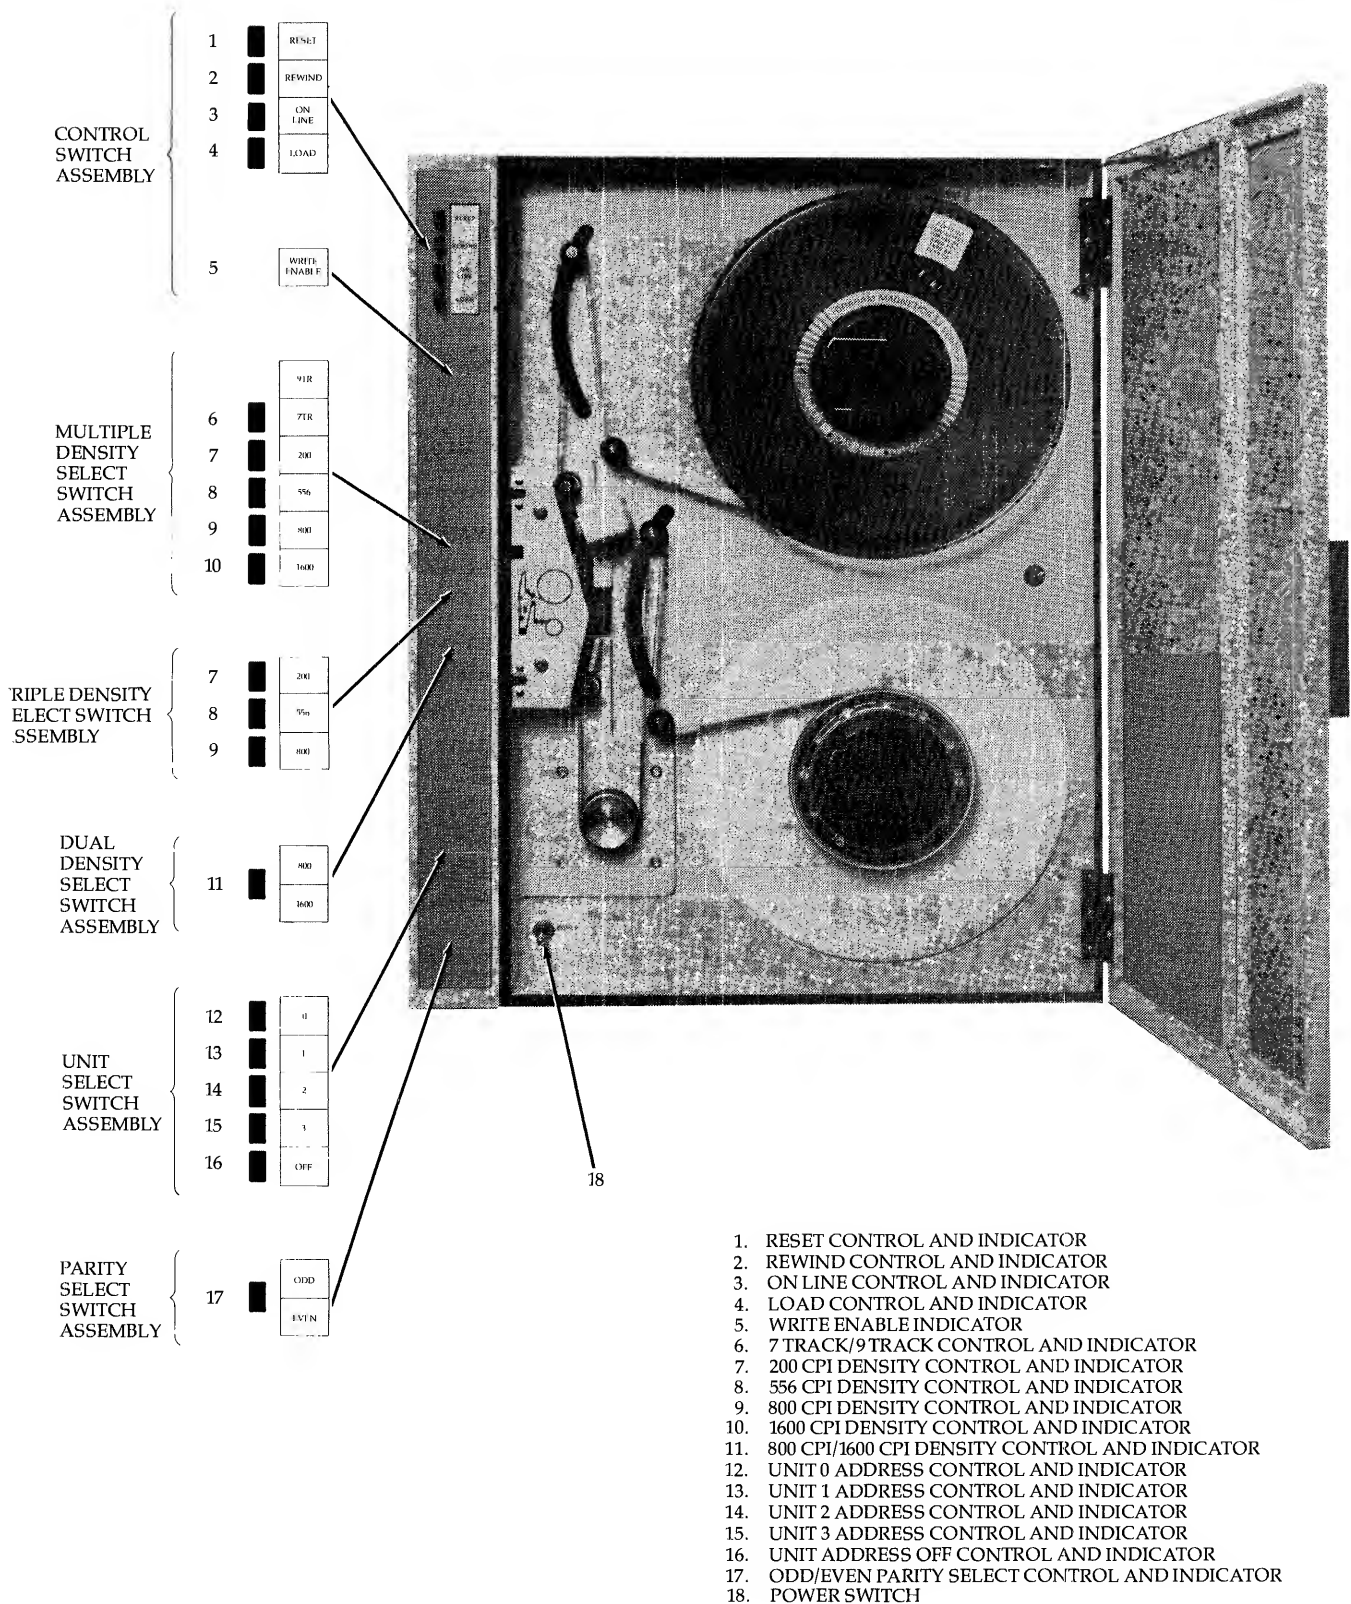

Figure 2-1, 7970 Magnetic Tape Unit
This section provides the instructions and reference data required to operate HP digital magnetic tape units. For your reference all of the standard front panel controls and indicators are pictured in figure 2-1; their functions are described in table 2-1. The following outline is an overview of the details discussed in section two. This outline can be used as a check list once the operator is familiar with the operation of the unit.
Unwind about four or five feet of tape from the supply reel and thread the tape unit as shown in figure 2-1. A tape threading diagram is also printed on the front of the tape unit. Manually wind two to three turns of tape on the takeup reel.
- A. Press the RESET SWITCH, figure 2-1. The RESET indicator will light, and the ON-LINE indicator will go out.